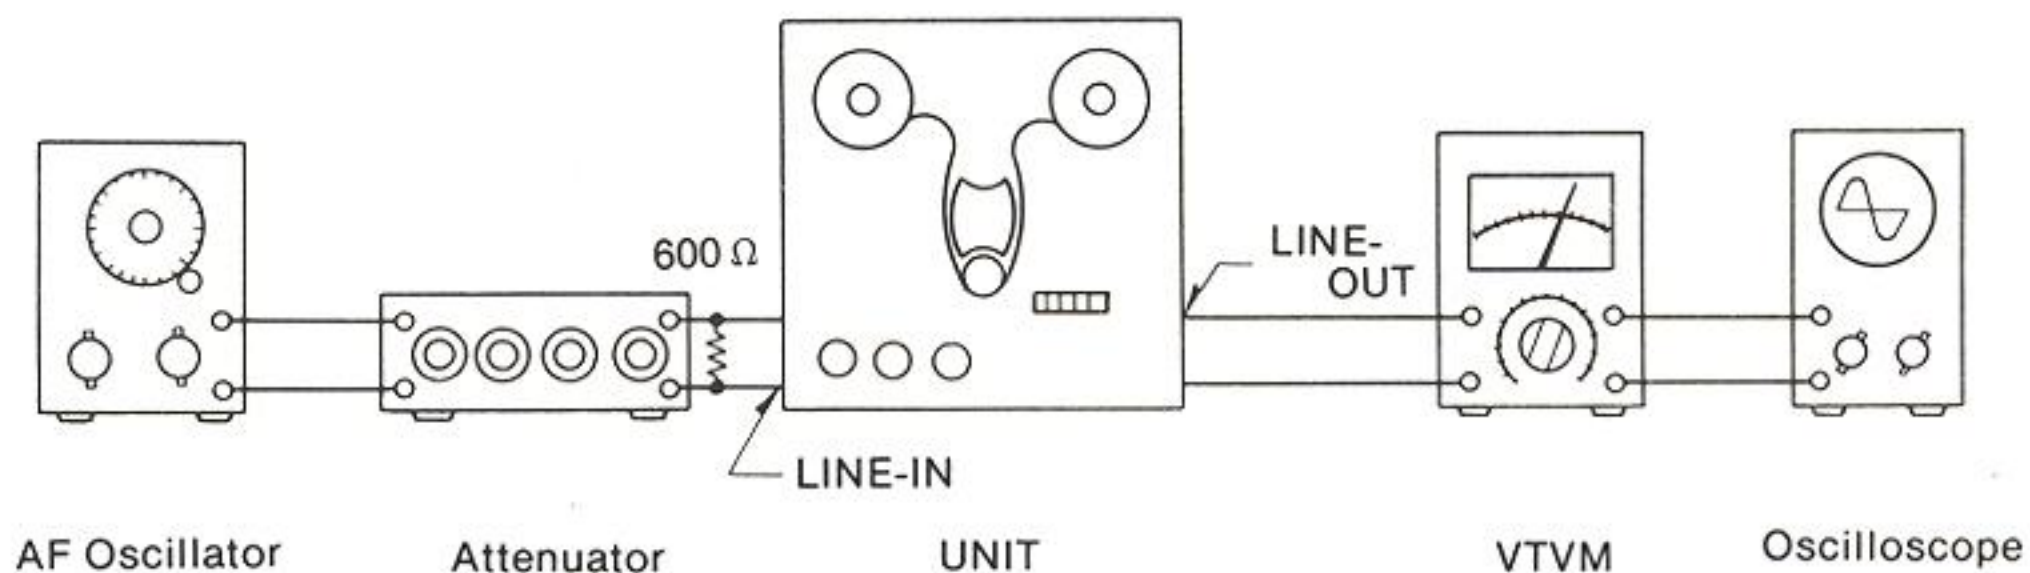
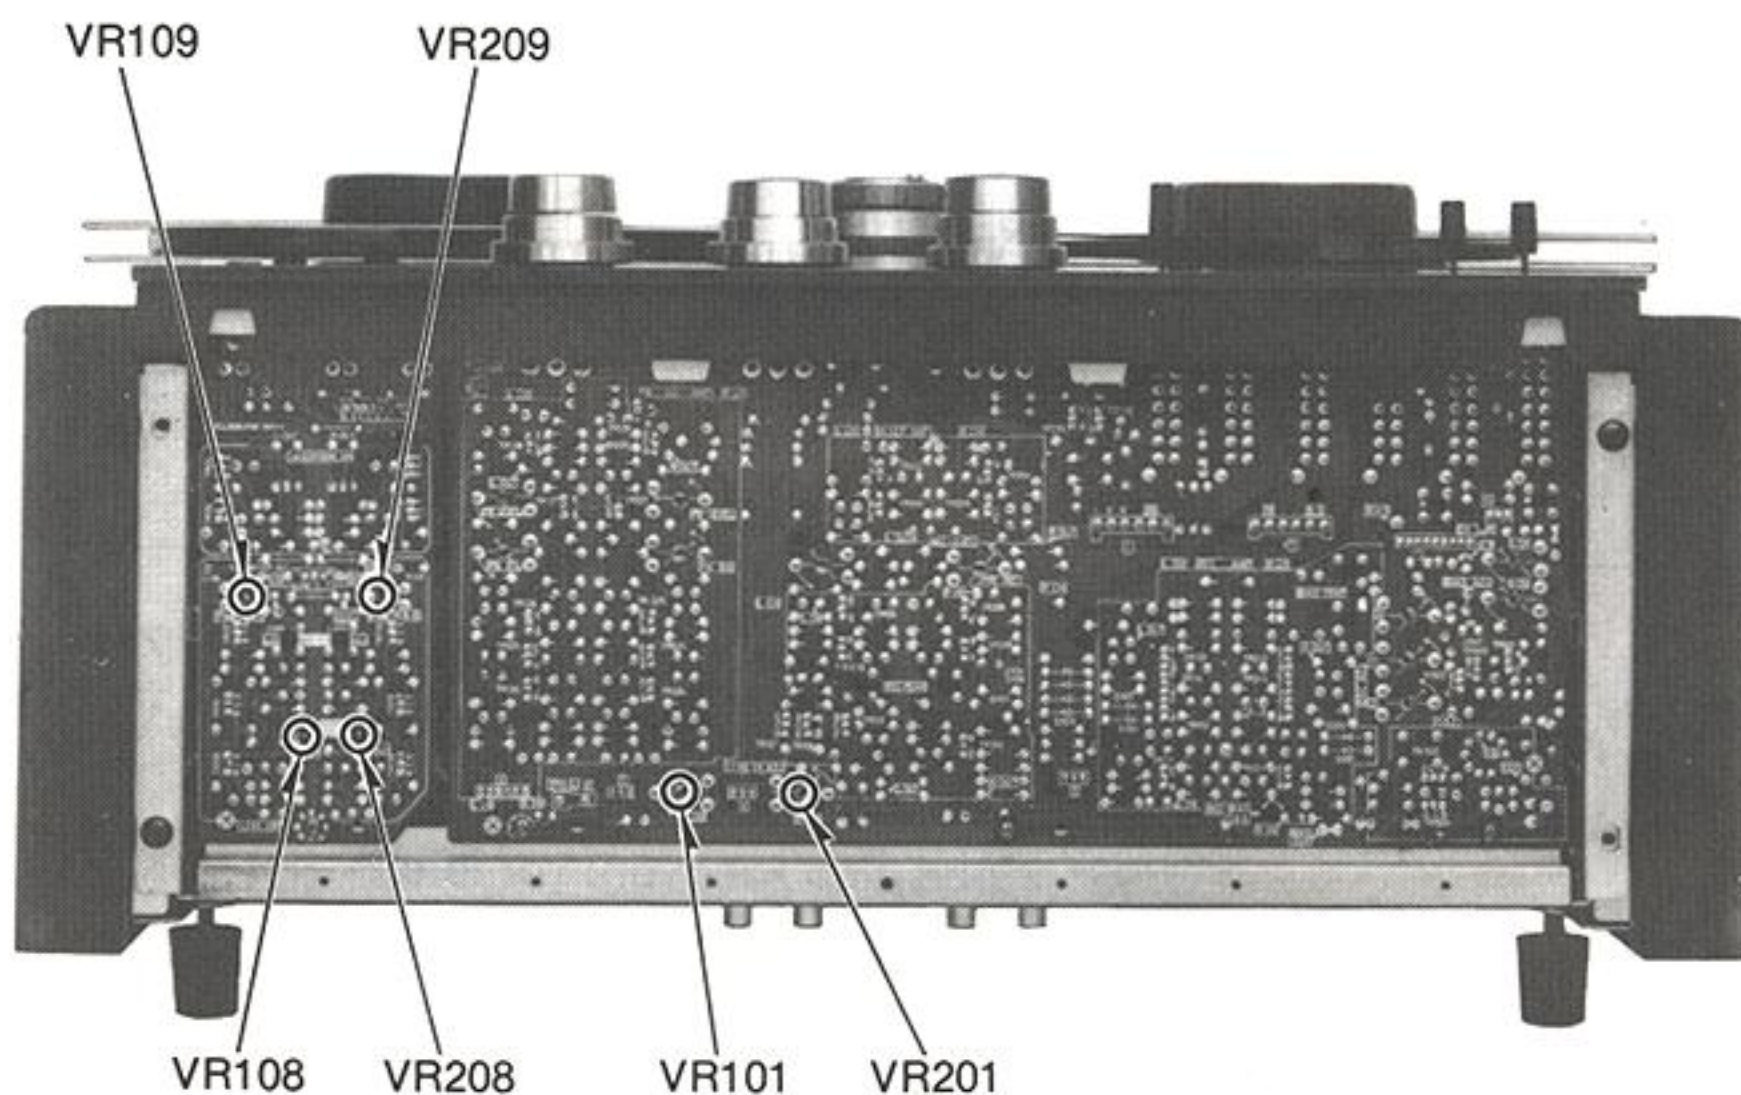
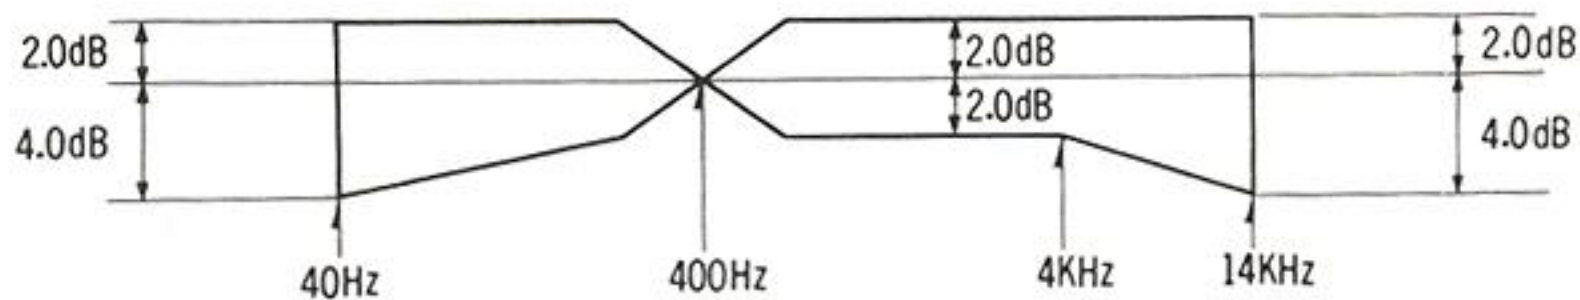
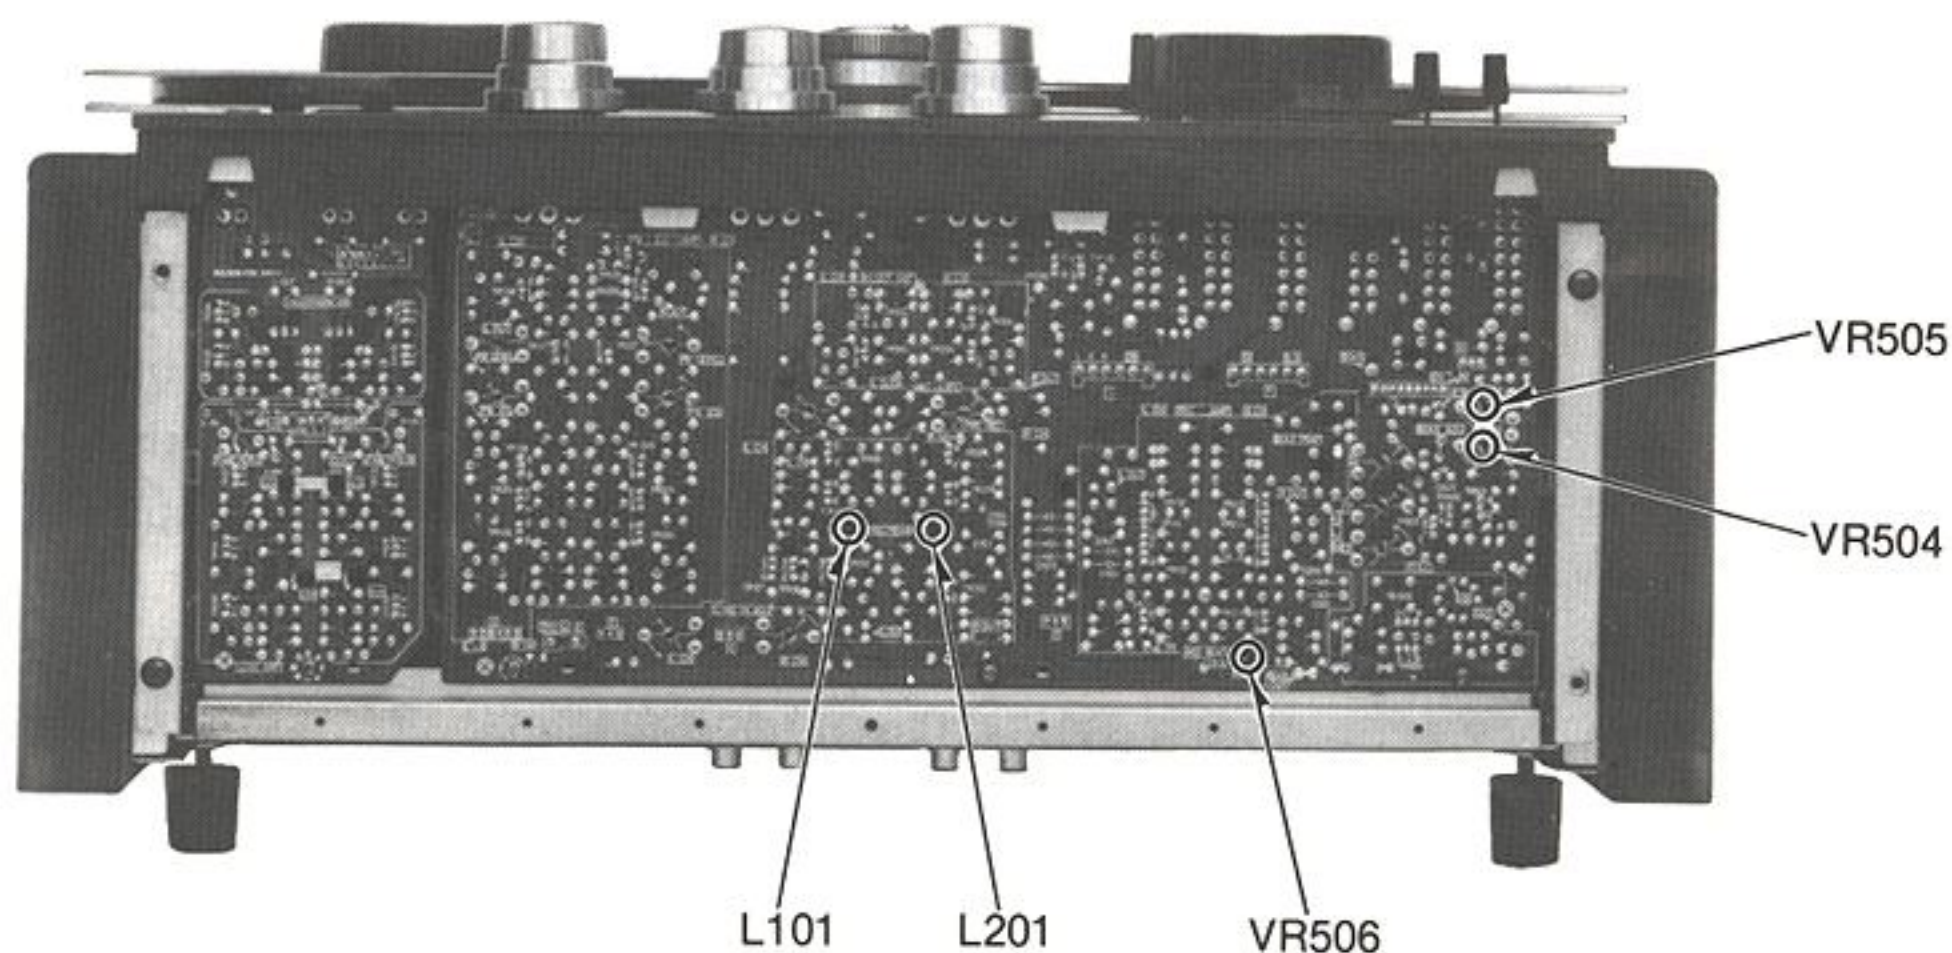

Fig. 36
Fig. 37
Fig. 46
Fig. 47
1. Test equipment connections are shown in fig. 36.
1. If the measured value is not within standard value, adjust the Line-in level adjustment VR, VR101 (L-CH) and VR201 (R-CH), (See fig. 37.)
Level meter for source monitor	1. Test equipment connections are shown in fig. 36. 2. Set the monitor selector to "SOURCE" position. 3. Set the output control to "8" position on front panel. 4. Supply 1 kHz signal ($-24\text{dB} \pm 3\text{dB}$) from AF oscillator, through ATT, to LINE-IN jacks. 5. Adjust ATT so that the output level at LINE-OUT jacks on VTVM becomes 0.55V. 6. Then confirm that the level meter indicates 0VU position. [Adjustment] 1. If the level meter does not indicate 0VU position in the above condition, adjust the level meter adjustment VR, VR108 (L-CH) and VR208 (R-CH). (See fig. 37.) [Confirmation] 1. Place unit into the above measurement condition. 2. Set the meter scale selector to "+6dB" position. 3. Confirm that the level meter indicates within $-3 \pm 1\text{VU}$ on "+3dB" scale.
Level meter for tape monitor	1. Test equipment connections are shown in fig. 36. 2. Place unit in the same condition as for "Standard recording level adjustment." 3. Thread "open" blank test tape (QZZORA218EX). 4. Set the meter scale selector to "+3dB" position. 5. Set the monitor selector to "tape" position (both channels). 6. Set the recording mode selector to "ON" position (both channels). 7. Place unit into recording mode. 8. Then confirm that the level meter indicates 0VU. [Adjustment] 1. If the level meter does not indicate 0VU in the above condition, adjust the level meter adjustment VR, VR109 (L-CH) and VR209 (R-CH). (See fig. 37.)
- * Measurement instrument connections are as shown in figure 36.
Overall frequency response	1. Test equipment connections are shown in fig. 36. 2. Thread blank test tape QZZORA218EX. 3. Supply 400 Hz signal ($-24 \text{ dB} \pm 3 \text{ dB}$) from AF oscillator, through ATT, to LINE-IN jacks and adjust ATT so that the output level at LINE-OUT jacks on VTVM becomes 0.55 V. 4. Next, adjust ATT so that the input level is -20 dB below standard recording level. (Standard recording level = 400 Hz, -24 dB) 5. Place unit into recording mode. 6. Set the monitor selector to "Tape" position (both channels). 7. Record each frequency (400 Hz, 30 Hz, 60 Hz, 150 Hz, 1 kHz, 10 kHz, 20 kHz and 30 kHz) at the same level. 8. Playback (or tape monitor) and express in dB the difference between playback (or tape monitor) output level of each frequency based on playback (or tape monitor) output level of 400 Hz. 9. Make sure that the measured value is within the range specified in the overall frequency response chart, as shown in fig. 46. 10. If the measured value is not within the range specified, adjust following points.
6. Next vary the input signal frequency between 24 kHz and 5 kHz, and confirm that the frequency response is within the range shown in fig. 46.
9. If it is not within 0— – 1 dB, adjust VR505 and VR504 for within this range. 10. Once again change the tape speed to 19cm/s, and input signal frequency to 24kHz, and confirm that playback output is as described in step 4 above. 11. If it is not, adjust peaking coils L101 (for L-CH) and L201 (for R-CH) shown in figure 47. After the above measurements and adjustments, measure the overall frequency response at 19cm/s and 38cm/s tape speeds, and confirm that it is within the range shown in fig. 46. Characteristics at 9.5 cm/s tape speed After adjustments described above are complete for 38cm/s and 19cm/s, confirm frequency response at 9.5cm/s. 1. Record an input signal of 14kHz, – 44dB at 9.5cm/s tape speed, and measure the playback output. 2. If the measured value is not within the range shown in fig. 46, adjust VR506 so that it is within this range.